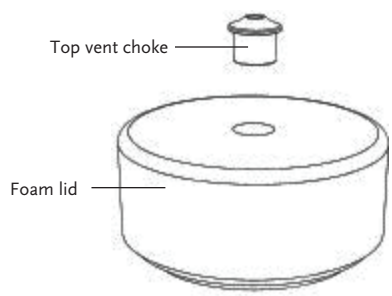

Figure 4
- Insert the top vent choke into the foam lid from the top side of the lid. **(IMPORTANT: The tapered flange should be on the outside of the CoolCell FTS30)** (Fig. 4 and 5)